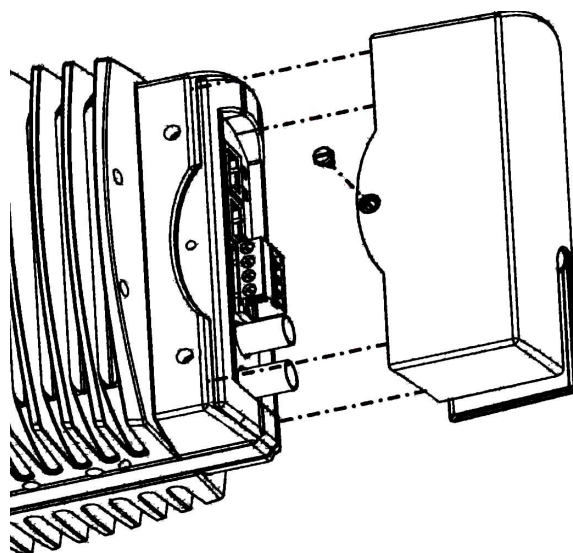

Fig. 2.4) Fitting the connector cover
- 9) Once the Power LED is lit, and the 'heartbeat' LED is pulsing, fit the connector cover using the two screws supplied (see Fig. 2.4)). Installation is complete.